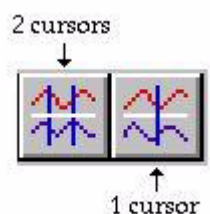

Figure 3-3: Cursor controls on the LabScribe Main window toolbar.
Cursors are vertical lines that pass through all channels. The LabScribe software has two cursors. Icons in the toolbar allow you to choose between using **Single Cursor** or **Dual Cursor** modes (Figure 3-3 on page 20). Cursors can also be “garaged,” or placed all the way to the left hand side of the data so they measure or report nothing. Cursors in the LabScribe software are always in one of three modes — garaged, single, or dual.
To access **Single Cursor** mode, press the **Single Cursor** icon (Figure 3-3 on page 20) in the toolbar. In this mode, the value of the data point on each channel, that is intersected by the cursor bar, is reported in the **Value Display** area on the right side of each channel bar. The time for the position of the cursor is reported in the **Clock Area** in the upper left hand corner of the **Main** window. **Single Cursor** mode is used to determine values and to place marks in the record after recording has stopped.
To access **Dual Cursor** mode, press the **Dual Cursor** icon (Figure 3-3 on page 20) in the toolbar. In this mode, the **Value Display** area reports the difference in value between **Cursor 1** and **Cursor 2**. In a similar way, the **Clock Area** reports the difference in time between the two cursors. When using **Dual Cursor** mode, the cursor farthest to the left is always **Cursor 1** and the other to the right is always **Cursor 2**. **Dual Cursor** mode is also used to define the right and left boundaries of a selection of data. This selected area can be used to define the contents of the **Analysis** window, or to determine what two values are used to accomplish the **Units Conversion** function.
- Select **Single Cursor** mode by pressing the **Single Cursor** icon in the toolbar (Figure 3-3 on page 20).
- Call the **Dual Cursor** mode by pressing the **Dual Cursor** icon in the toolbar (Figure 3-3 on page 20).